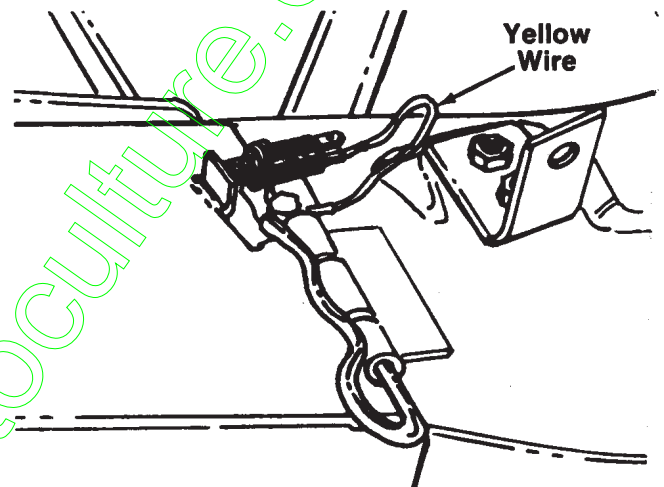

FIGURE 6.
- Unplug the yellow wire from the chute safety switch. Then lift the deck off the rider. See figure 6.